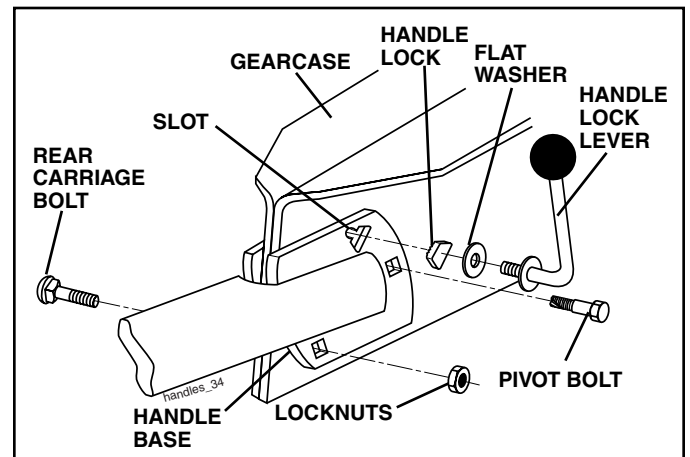

FIG. 5
- Rotate handle assembly down. Insert rear carriage bolt first, with head of bolt on L.H. side of tiller and loosely assemble locknut (See Fig. 5).